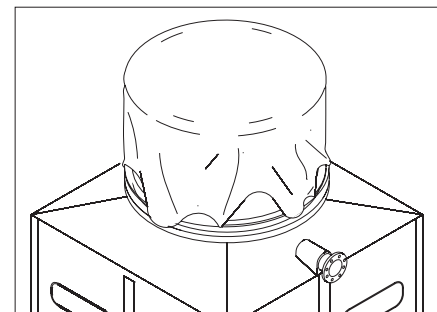

Figure C-2: Fan discharge covering
- To avoid any ice formation due to rain or snow and keep out dirt from inside and outside the towers components, covered them. Especially the fan discharge opening. (As shown in figure C-2)